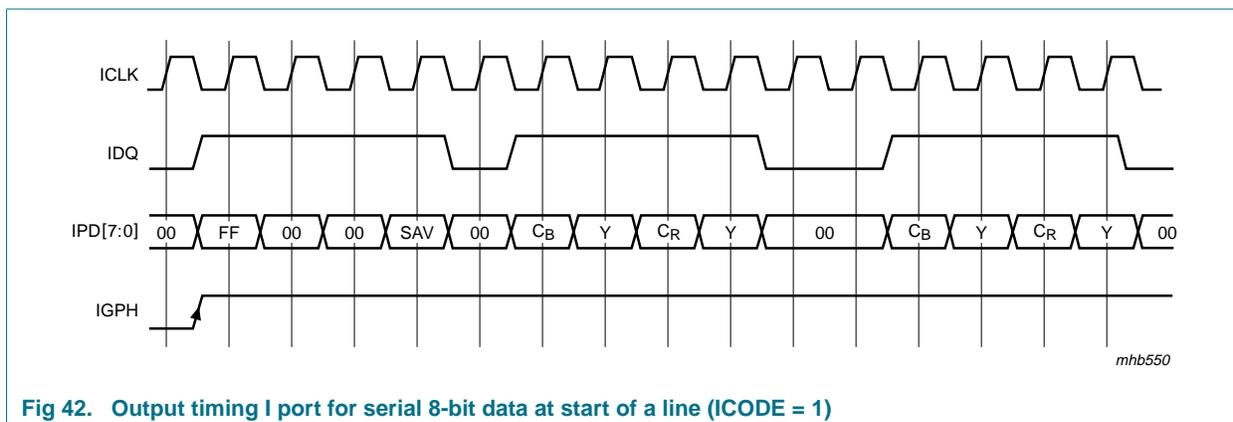

Fig 42. Output timing I port for serial 8-bit data at start of a line (ICODE = 1)
**Remark:** All timings illustrated in Figure 42 to Figure 48 are given for an uninterrupted output stream (no handshake with the external hardware).